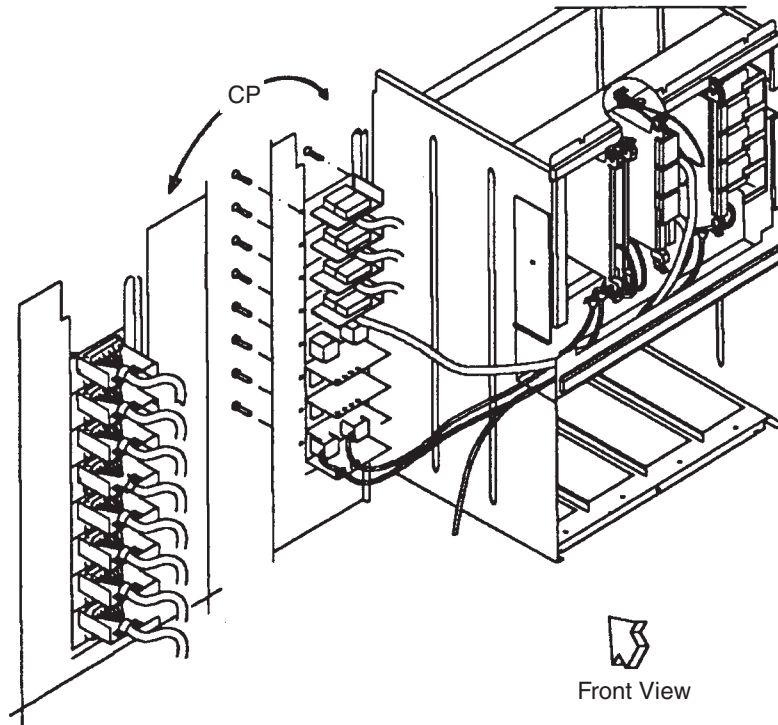
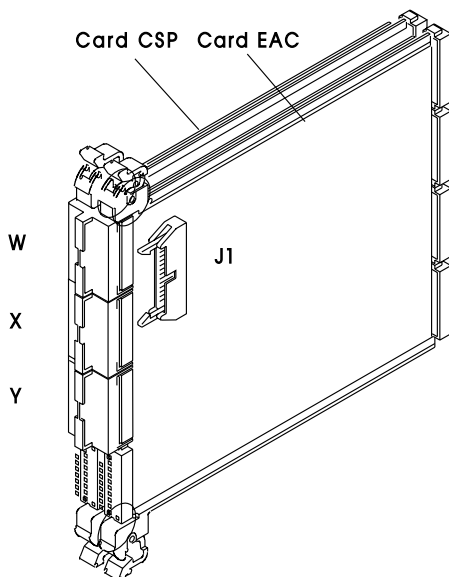

Figure 4-115. ESS Tailgate and LA Basic Board (01G-A1)
Figure 4-116. EAC Card.
5. Referring to Figure 4-115 on page 4-127 and Figure 4-116, remove the cable from EAC to the tailgate as follows: